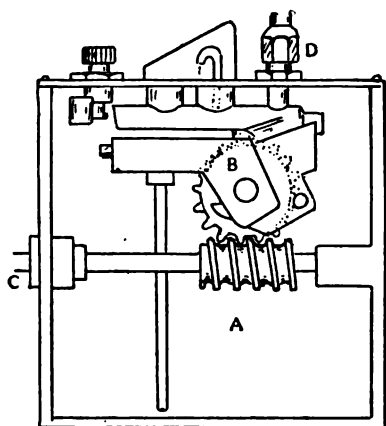

Fig. 15
One style of force-feed oiler is illustrated in Fig. 15, where the container (A) is provided with a small pump (B), which is actuated by a shaft (C) connected with the motor. The oil is forced from the pump to the feed D, which leads the lubricant through pipes to the parts of the motor requiring lubrication.